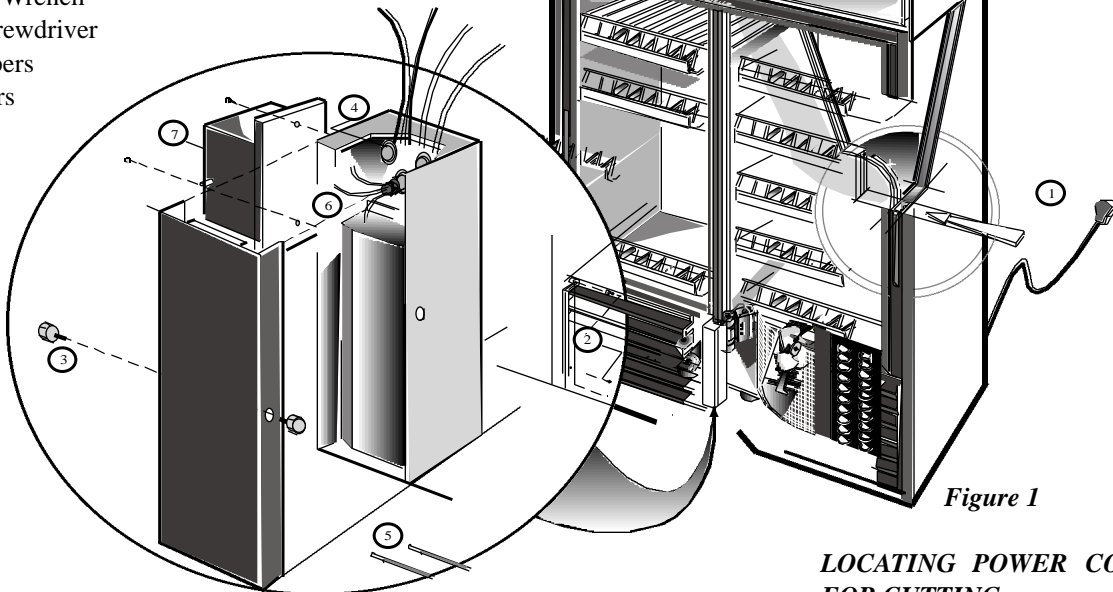
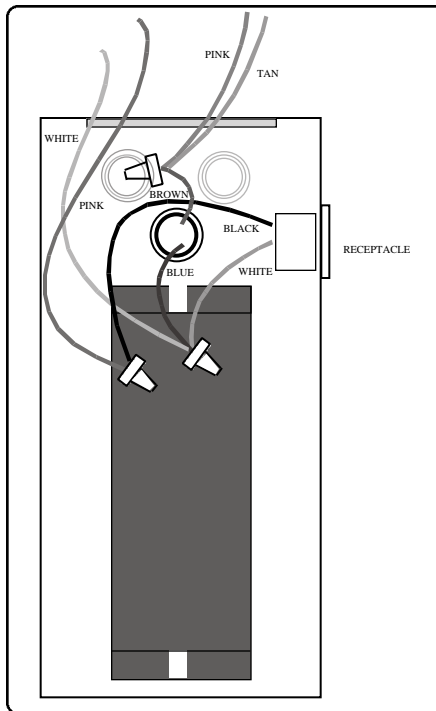

Figure 1
Figure 2
Remove louvered grill by removing the four phillips-head screws as shown in Figure 1, # 2.
Remove ballast box cover by un-screwing two 1/4" hexhead screws, center-positioned on both sides of cover plate. See Figure 1, #3.
Locate 5/8" knockout positioned on the inside, upper left, of ballast box. Figure 1, # 4.
The power cord wiring is routed through the middle knockout in the cluster of three knockouts in the upper inside of the ballast box. See Figure 1, #6.
Locate the junction of tan, pink and black wires coming from power cord area. See figure 1 and Figure 2. If cabinet is supplied with a European style cord, the power cord, black, wire will be brown.
At this junction, cut the pink wire several inches from the junction. Strip each end of wire 1/2". See figure 2.
Position the surge protector on left side of ballast box toward back edge. Allow for cover clearance. See Figure 1. # 7
Using self-drilling screws, attach the surge protector on the ballast box, as illustrated in Figure 1, step # 7.
- Route all interconnecting wires through newly created knockout hole. See Figure 2.